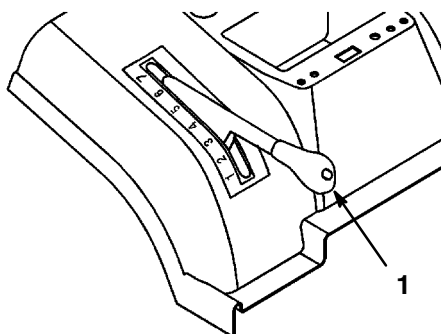

Figure 5
2. Pull or push the height-of-cut lever (deck lift) and move it to the desired position (Fig. 5).